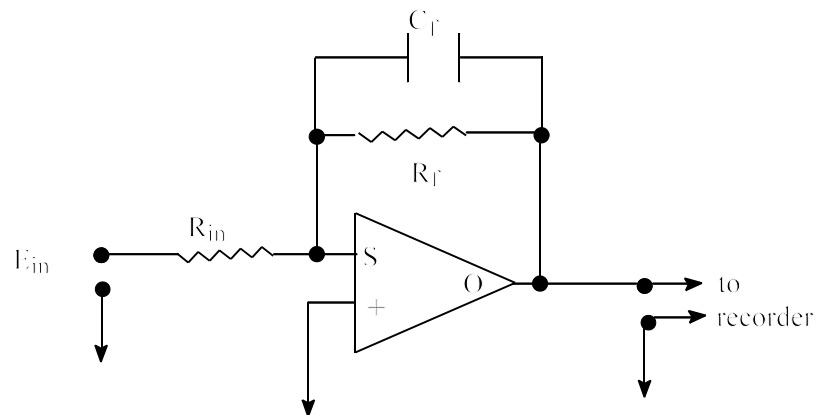

Figure 5. Circuit for measuring response time
1. Wire up a gain of 10 amplifier with OA1 as shown in Fig. 5, where  $R_{in} = 100 \text{ k}\Omega$  (red plug),  $R_f = 1 \text{ M}\Omega$  (gray plug), and add the  $C_f = 10 \text{ }\mu\text{F}$  (violet plug) in parallel so the circuit will have a 10 s RC time constant. **Make sure that the positive side of the capacitor is connected to the OA output.** Figuring out the positive side can be tricky so do not be shy about asking for help. There